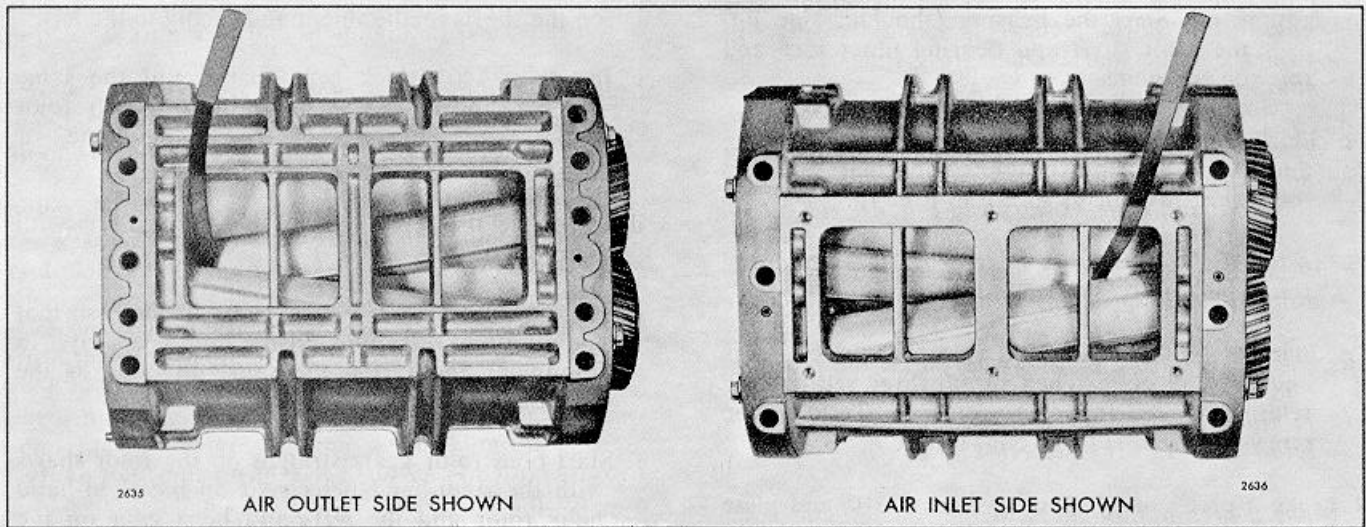

FIG. 18 - Measuring "CC" and "C" Clearance Between Blower Rotor Lobes
4. The clearance between the rotor lobes may be checked with 1/2" wide feeler gages in the manner shown in Fig. 18. When measuring clearances of more than .005", laminated feeler gages that are made up of .002", .003", or .005" feeler stock are more practical and suitable than a single feeler gage. A specially designed feeler gage set J 1698-02 for the blower clearance operation is available. Clearances should be measured from both the inlet and outlet sides of the blower.
5. Refer to Figs. 18 and 19 and time the rotors to the specified clearance between the *trailing* edge of the